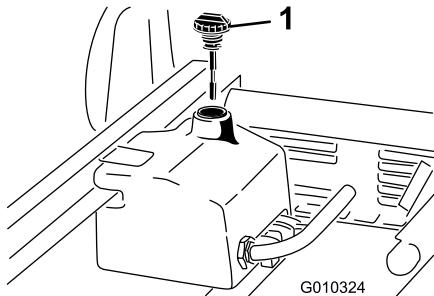

Figure 15
- Clean the area around the filler neck and the cap of the hydraulic tank (Figure 15). Remove the cap from the filler neck.
- Remove the dipstick (Figure 15) from the filler neck and wipe it with a clean rag. Insert the dipstick into the filler neck; then remove it and check the fluid level. The fluid level should be between the two marks on the dipstick.